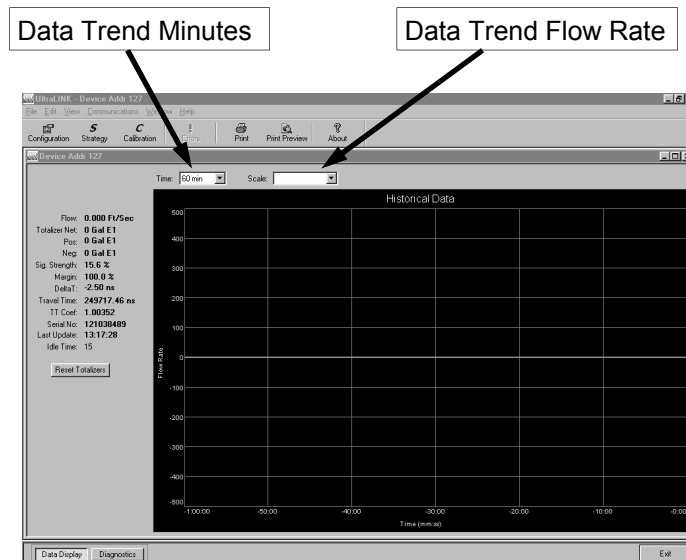

Figure 12
3. The opening screen, shown in **Figure 12**, is called the Data Screen. It contains a large data trend chart that can be adjusted for both the X(time) and Y(flow rate) axis. This screen also contains real-time information regarding flow rate, totalizer accumulations, system signal strength and diagnostic data. The indicator in the lower right-hand corner will indicate communications status. If a red **ERROR** is indicated, click on the Communications button on the top bar. Click on Initialize. Choose the appropriate COM port and RS232. Proper communications are established when a green **OK** is indicated in the lower right-hand corner of the PC display.
- **Vol. Correction Sig. Str. Limit** is a feature used to provide volumetric compensation for gas bubbles that can be present in liquid systems. The HTTF measures the velocity of the liquid in the pipe and converts that velocity to volume by multiplying the velocity by the cross-sectional area of the pipe. If there are gas bubbles within the liquid, the gas is displacing some of the liquid and errors can occur. When Vol. Correction Sig. Str. Limit is set to zero, the compensation function is not operational. To use the feature, enter the maximum Signal Strength observed on the flow meter after installation. The maximum signal strength should occur with the pipe completely full of liquid and the flow stopped. Signal Strength can be observed on the UltraLink Data Screen. See **Figure 12**.